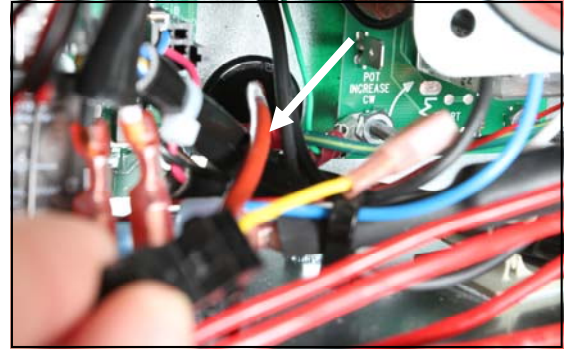

Figure 10: Route the sensor wiring harness through the grommet in the left controller box (arrow).
2. Route wiring from the sensor through the holders to the grommet in the left control box. **See Figure 10.**